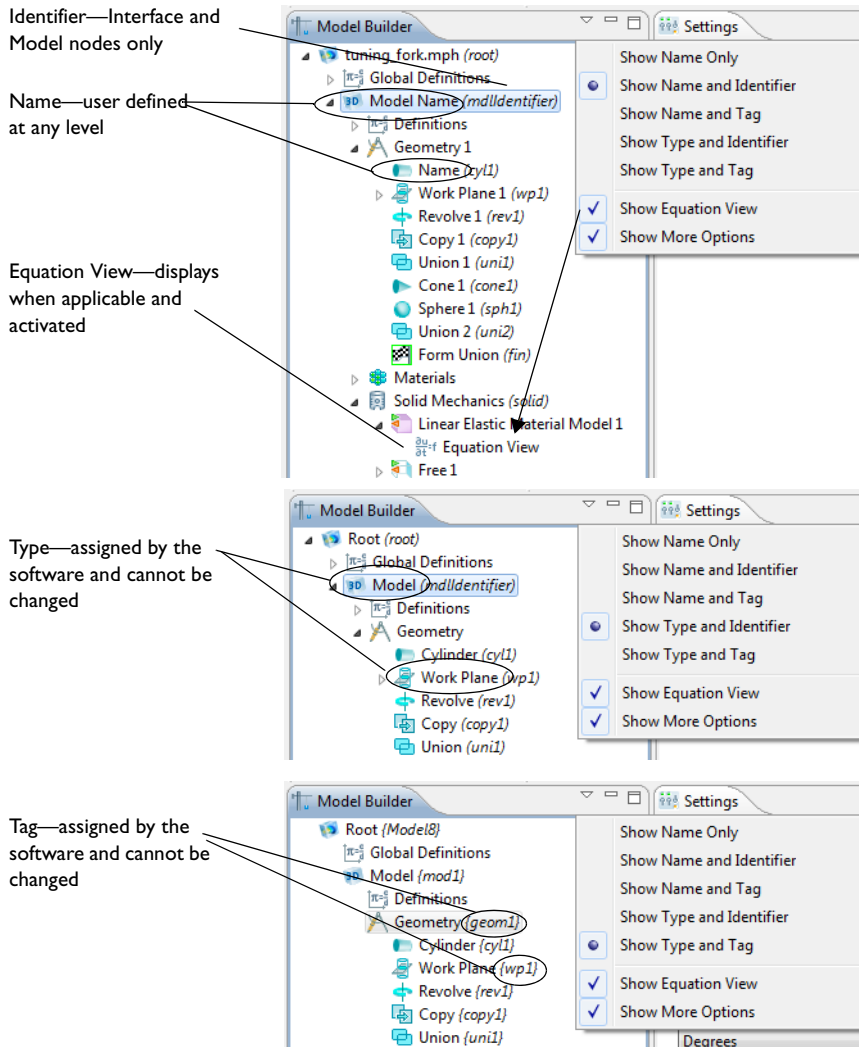

Figure 7-3: Examples of the available label combinations on the View menu.
- 2 Click the small down arrow to the left of the **Minimize** button, the **View Menu** button, to select from the list: **Show Name Only**, **Show Name and Identifier**, **Show Name and Tag**, **Show Type and Identifier**, or **Show Type and Tag**. See Figure 7-3 for examples of the different label types. In addition, you can select **Show Equation View** and **Show More Options**.